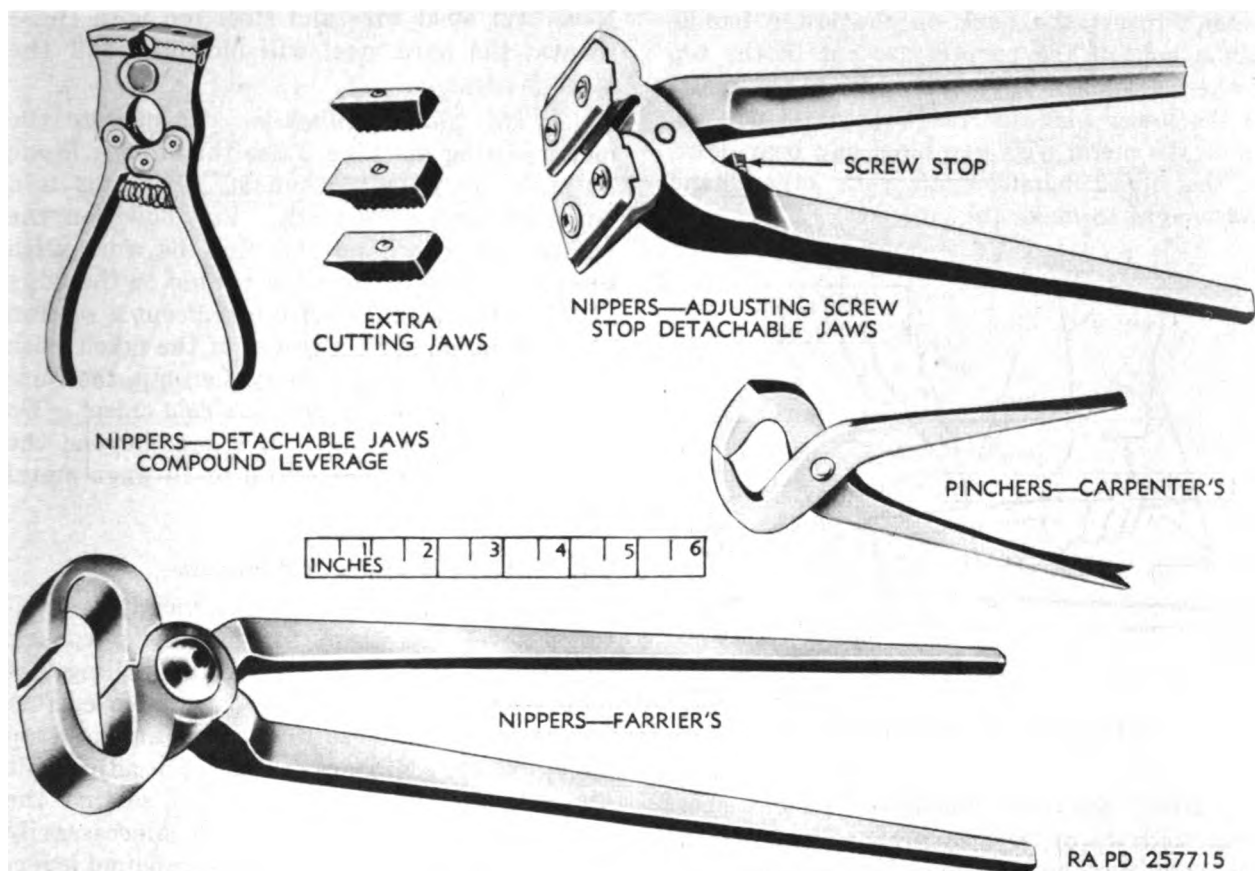

Figure 245. Nippers and pincers.
a. *Cutting Nippers.* Cutting nippers (fig. 245) are available with integral or detachable cutters. The farrier's nippers have integral cutters and are 15 inches long. Some nippers have an adjusting screw stop in the handle and have detachable jaws. Compound leverage nippers, with detachable jaws are available. Three extra pairs of jaws are supplied with these nippers. Cutting nippers range in size from $5\frac{1}{2}$ to 15 inches in length. Their jaw widths range up to $1\frac{3}{4}$ inches.
b. *Pincers.* Pincers (fig. 245) look like nippers and are used for pulling and removing parts of work. Carpenter's pincers have the ends of the handles shaped to serve different purposes. One end has a claw for removing small nails or tacks and the other end is shaped like a screwdriver blade.
- (2) *Nippers and pincers.* When the cutting edges of nippers and pincers become dulled or nicked, they must be ground to the proper bevels on a
grinding wheel or grindstone. If the jaws do not open wide enough to permit grinding, the pin or bolt holding the handles together must be removed. The bevel is ground at a 90° angle to the machined bevel, as shown in figure 251. The grinder rest is adjusted so that the proper bevel is obtained. Use the same precautions to preserve the temper as when grinding shears ((1) above). The bevels on each pair of cutting jaws used with the compound leverage detachable jaw nippers (fig. 245) vary with their use.